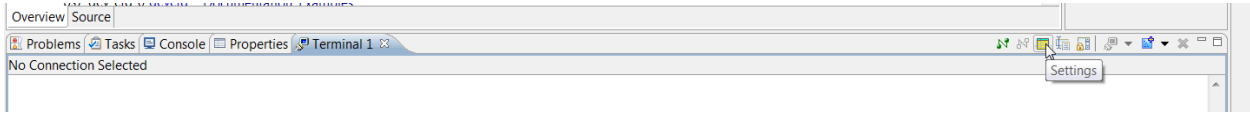

Figure 56: Settings Button
7. Set the terminal by selecting the Terminal 1 tab and clicking the Settings button (Figure 56).